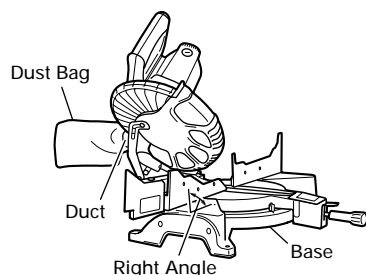

Fig. 36
- (1) When the dust bag has become full of sawdust, dust will be blown out of the dust bag when the saw blade rotates. Check the dust bag periodically and empty it before it becomes full.
- (2) During bevel and compound cutting, attach the dust bag at a right angle to the base surface as shown in Fig. 36.